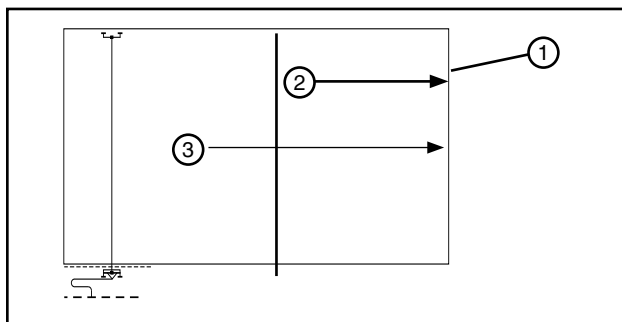

Figure 34-3 1. Field
1. The percentage timer is set at the desired application rate and the system is started at one end of the field and run wet (irrigating) to the other end of the field. See figure 34-3.